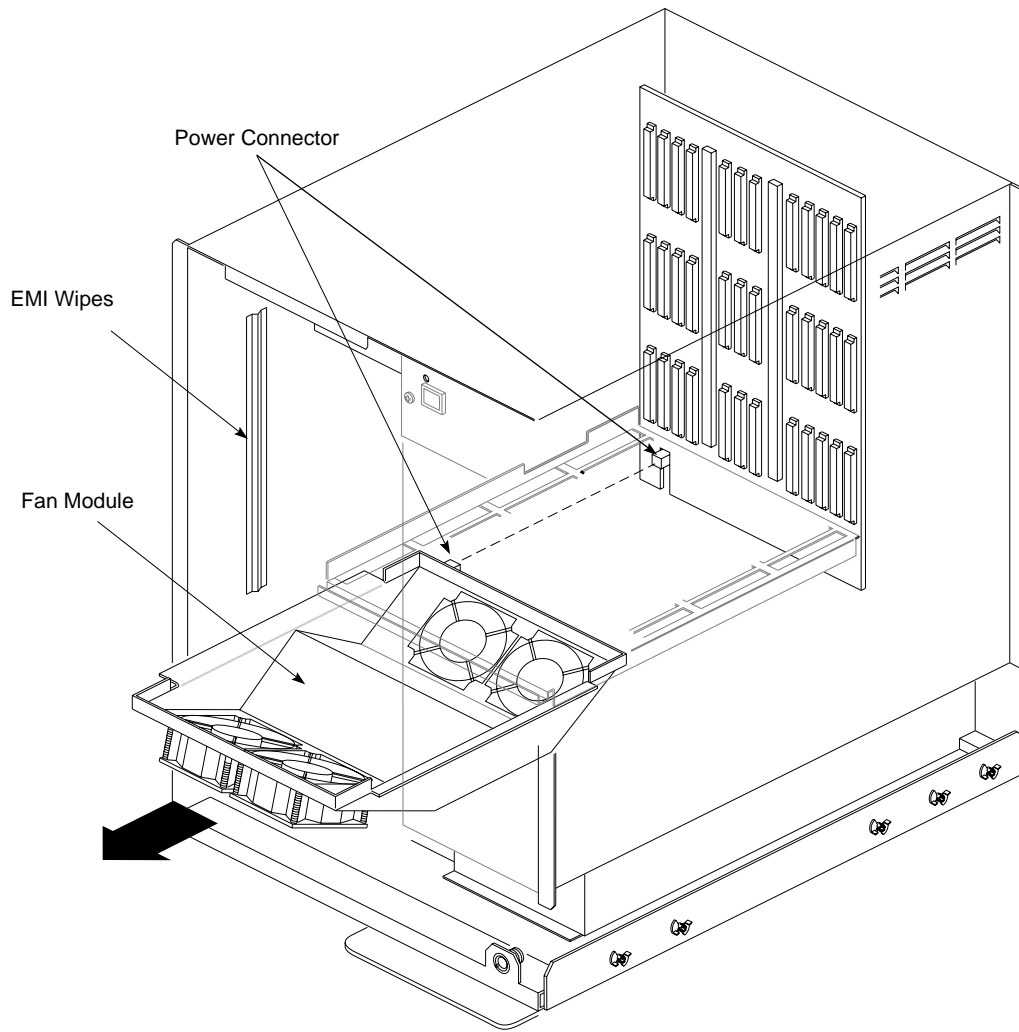

Figure 3-13 Removing the Four-fan Module for RealityEngine
4. Slide the four-fan tray module out of the chassis, being careful not to damage the EMI wipes, if they are in the way. See Figure 3-13.